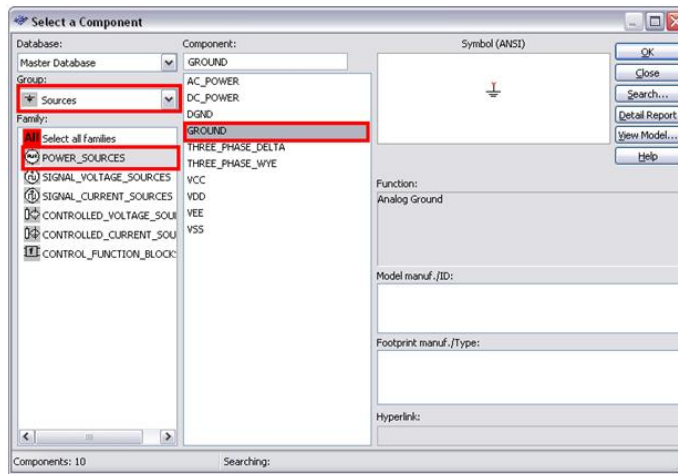

Figure 4. Placing a Ground Symbol
2. Highlight the GROUND component (as shown in Figure 4).